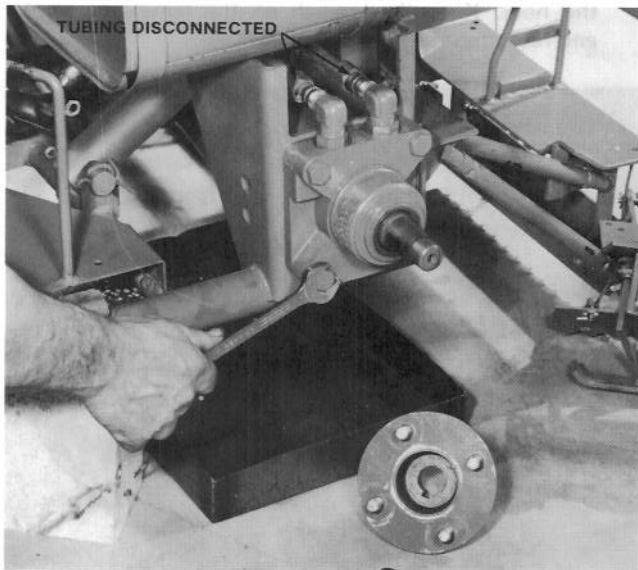

Figure 21
7. Place a drain pan under the motor and disconnect the tubing. Allow the oil to drain out of the tubing (Fig. 21).
8. Remove the four capscrews. (The two lower capscrews screw into weldnuts) (Fig. 21).